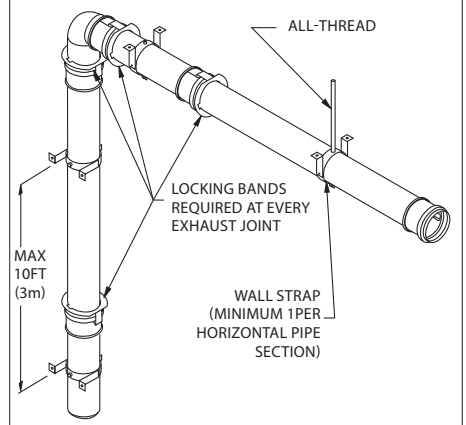

Figure 7
- Every horizontal section must be supported. (**Fig.7**)
- Vertical installations must be supported every 10 feet (3 meters) or less. (**Fig.7**)
- Elbows and Tees are sufficiently supported when a bracket is fixed at the female end of the connected straight section. (**Fig.7**)